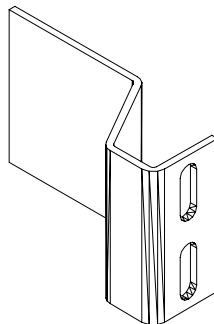

Figure 2.
6. Locate the steel side plate. Refer to figure 2 below.